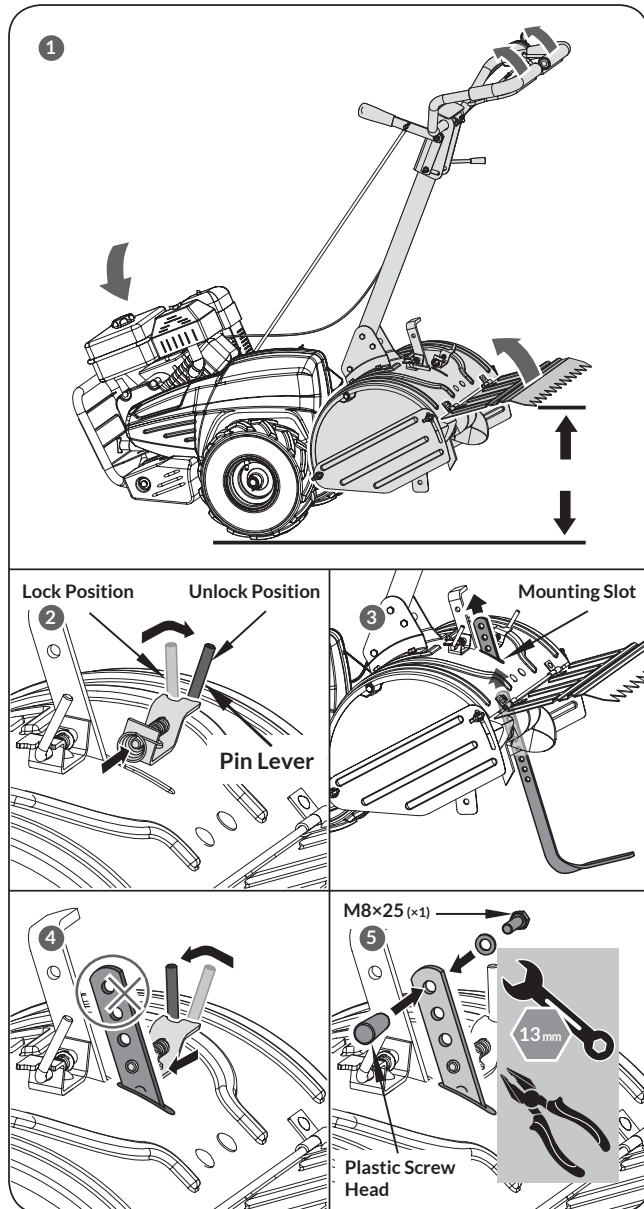

Figure 5a
1. Hold the machine leaning forward. (see **Figure 5a, Illustration 1**)
2. Pull the pin lever to unlock position. (see **Figure 5a, Illustration 2**)
3. Insert the depth stake into the slot in the blade cover. (see **Figure 5a, Illustration 3**)
4. Release the pin into the fourth hole of depth stake. At the same time, switch the pin lever to the lock position. (see **Figure 5a, Illustration 4**)
5. Fasten the M8×25 bolt, washer and plastic screw head into the first hole of depth stake. Hold the plastic screw head in place with pliers while screwing the bolt in. (see **Figure 5a, Illustration 5**)